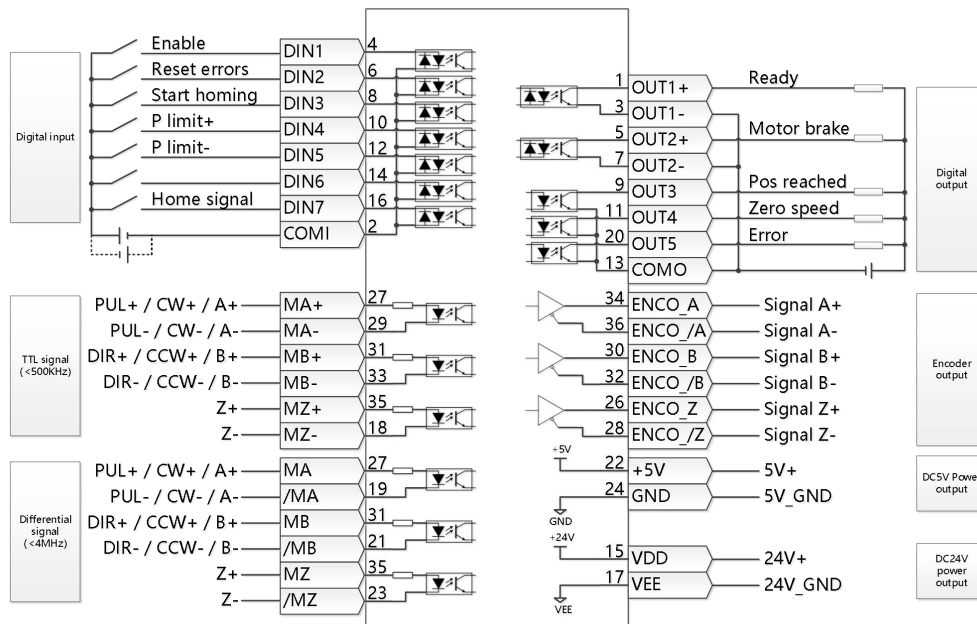

Figure 3-14 FD5P-LA/CA Default definition of IO port of FD5P-LA/CA drive
- Figure 3-14 shows the X1 wiring of the FD5P-LA/CA driver's default IO function. More IO functions can be defined by the digital panel or the upper computer debugging software. For more details on IO features, see Chapter 5, Section 5.5.